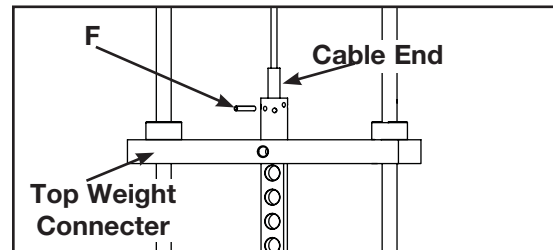

Figure 8
- G. Pull cable tight and secure in place with roll pin (F) included in kit. See Figure 8.